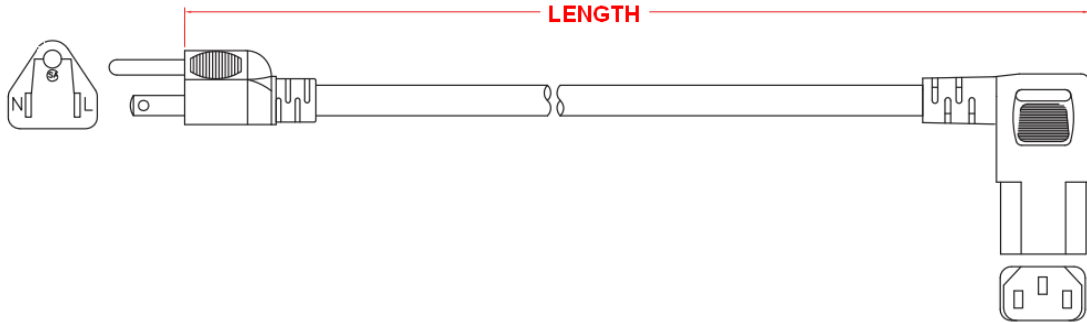

Figure 13 Electrical Cable, P/N AE9887-ND
- (2) Electrical Cable P/N AE9887-ND, see Figure 13.